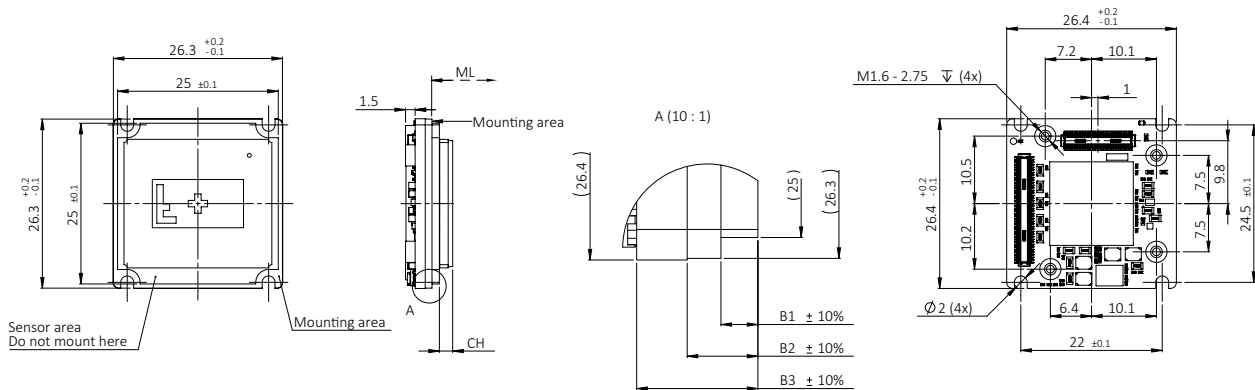

Figure 68: Bare Board (Alvium Flex) dimensions
Dimensions that are common between different models are shown in Figure 68, model specific dimensions are listed in Table 96. **Mechanical length** (ML) defines the mechanical distance from the mounting area to the lens mount front flange, without optical filter. **Components height** (CH) relates to the electronic components with maximum height, sometimes the sensor.